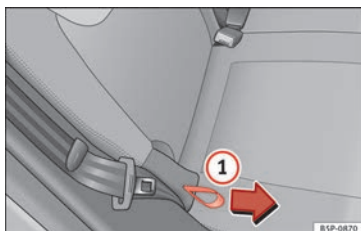

Fig. 80 Rear seat backrest angle adjustment.
- Hold the backrest at the top. Pull the loop on the side of the seat » Fig. 80 ① in the direction of the arrow and hold it in this position. Push the backrest to the required position and release the loop.